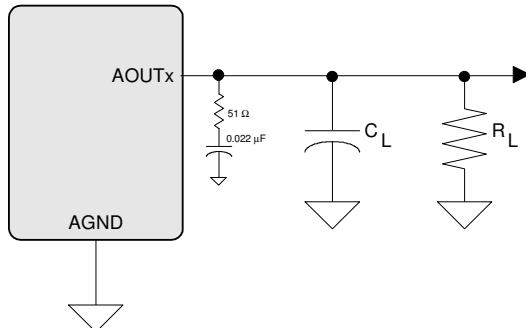

Figure 2. Headphone Output Test Load
- See Figure 2. R_L and C_L reflect the recommended minimum resistance and maximum capacitance required for the internal op-amp's stability and signal integrity. In this circuit topology, C_L will effectively move the band-limiting pole of the amp in the output stage. Increasing this value beyond the recommended 150 pF can cause the internal op-amp to become unstable.
Test conditions (unless otherwise specified): Input test signal is a full-scale 997 Hz sine wave; Sample Frequency = 48 kHz; Measurement Bandwidth is 20 Hz to 20 kHz; Test load $R_L = 16 \Omega$, $C_L = 10 \text{ pF}$ (see Figure 2); “Required Initialization Settings” on page 37 written on power up.
Test conditions (unless otherwise specified): Input test signal is a full-scale 997 Hz sine wave; measurement bandwidth is 20 Hz to 20 kHz; Sample Frequency = 48 kHz; Test load $R_L = 10 \text{ k}\Omega$, $C_L = 10 \text{ pF}$ (see Figure 2); “Required Initialization Settings” on page 37 written on power up.